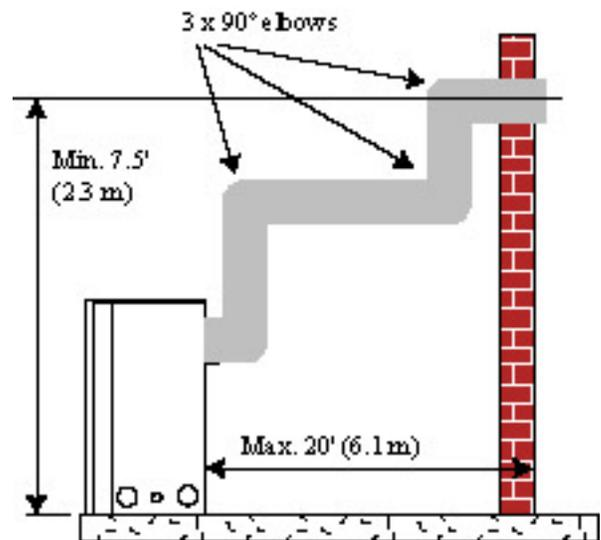
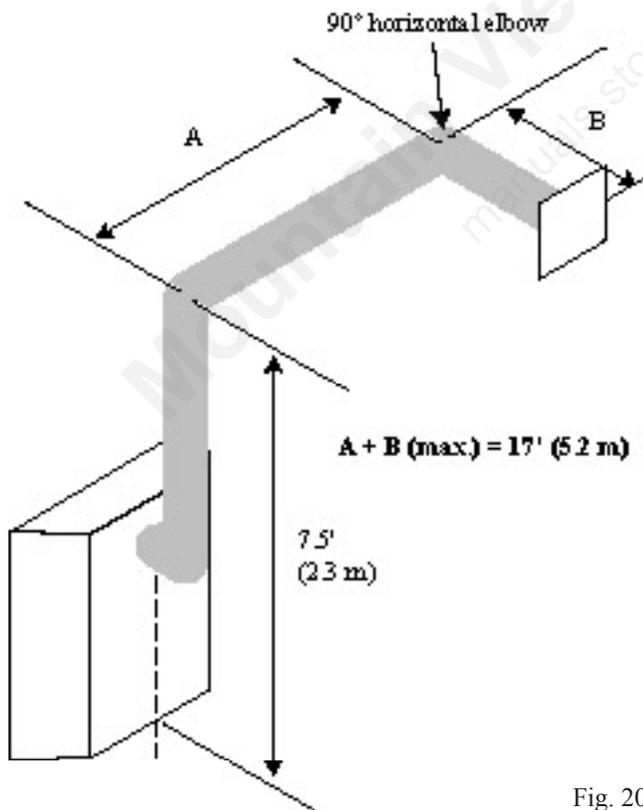

Fig. 18
Fig. 20
- If a 90° elbow is used in the horizontal vent run (level height maintained) the maximum horizontal vent length is reduced by 36" (914 mm), (Fig. 20). This does not apply if the 90° elbows are used to increase or redirect a vertical rise (Fig. 18).
In Fig. 20 Dimension A plus B must not be greater than 17' (5.2 m).